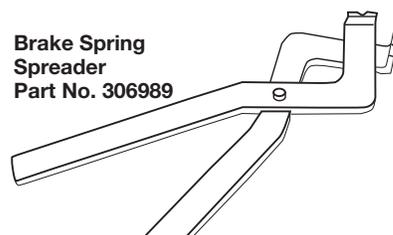
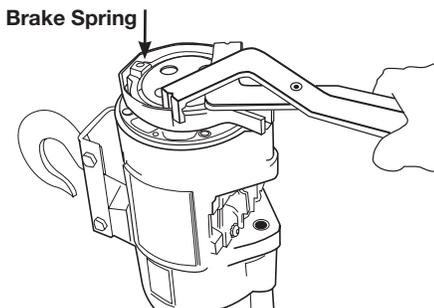
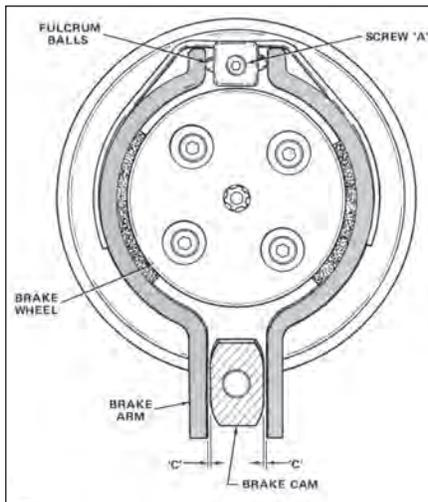

Figure 14- Special Tool for Removing Brake Spring
Figure 15 - Removing Brake Spring Using Special Tool
Figure 24 - Brake Adjustments
- Remove brake spring by carefully prying it up evenly with a screwdriver until spring is about half-way off. Using brake spring spreader (Part No. 306989, Figure 14), remove spring from brake arms (Figure 15).
spring, using the spreader tool to start the spring over the shoes (See Figures 14 and 15). Tap the spring into place. Adjust brake shoes per instructions in Figure 24.